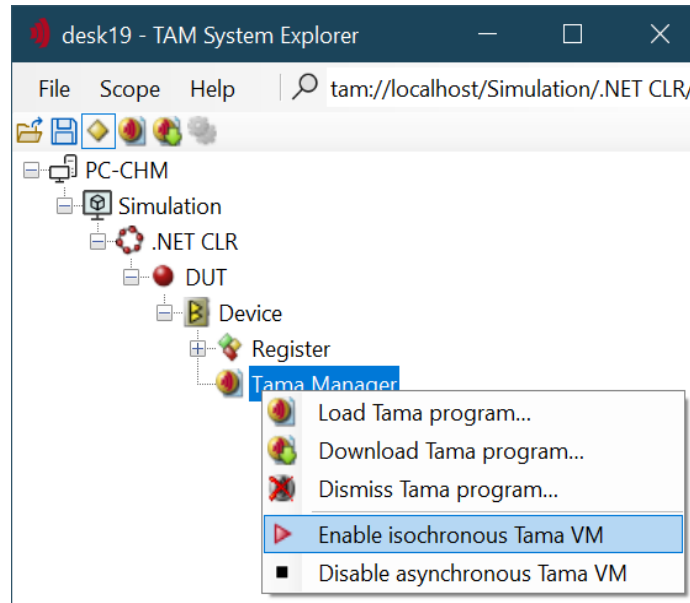

Figure 7: Context Menu of the Tama Manager. The menu entries also indicate whether the virtual machines are currently enabled or not.
1. Open the context menu with a right click on the *Tama Manager* (Figure 7).
Often, such an error cannot be acknowledged since it will be immediately reproduced. Dismiss the Tama program in such a circumstance by using the context menu of the *Tama Manager* (see Figure 7).